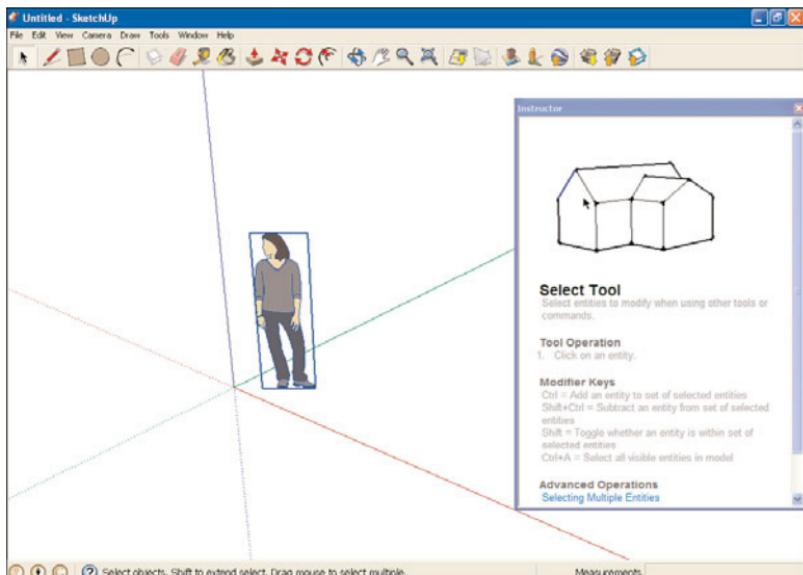

FIGURE 2.14 Selecting the human figure.
4. Select the human figure in the template by clicking it. You can see the human figure selected in Figure 2.14.
If you take a look at Figure 2.14, you'll see three axes corresponding to the x, y, and z axes you may be familiar with. The x and y axes form the horizontal plane, and the z axis points vertically out of that plane.